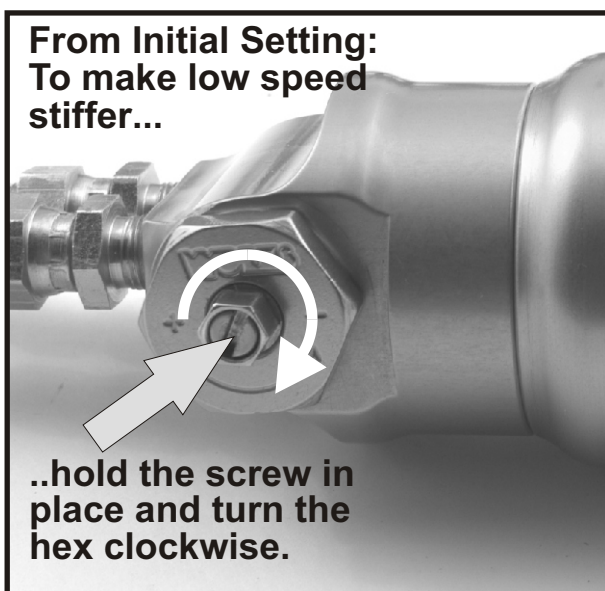

Fig. 2
Fig. 2: Typical adjuster position on clevis-style shock ends (hex driver positioned for adjustment). Adjustment is clockwise for slower rebound, and counterclockwise for faster rebound.
4. As required, add low speed compression by turning the hex clockwise (See Fig. 2). While making low speed compression adjustments, the slotted high-speed compression adjuster screw must be held in position. Once the low speed adjustment has been made,